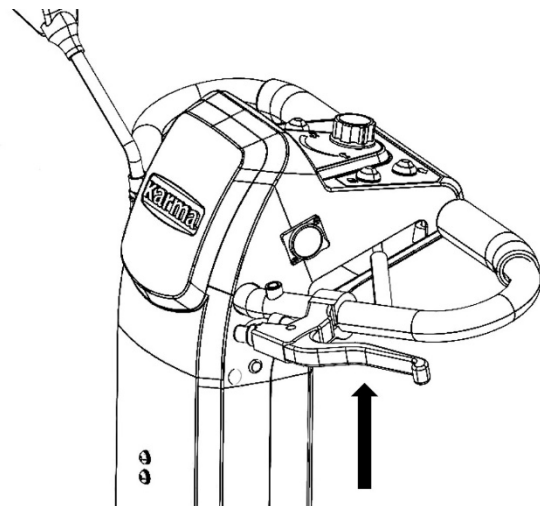

Figure 7.12
7.16.1 KS-343.2S has an emergency brake (optional) mounted on the left handlebar. (See Figure 7.12) If the electromagnetic brake malfunctions, you may use the manual emergency brake to stop your scooter.